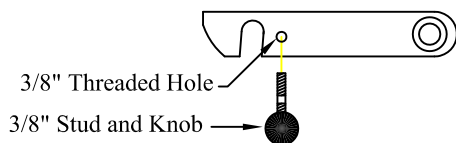

Figure 17: Original Series platform latch knob.
- 1. Install** the two (2) knobs on the platform latches (Original Series only) see (Figure 17).